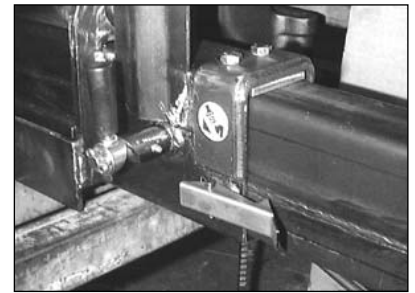

fig. 12a
- Position lever **B** (fig. 12a), placed on the base upwards; the spring loaded security pin will be released from it's position.